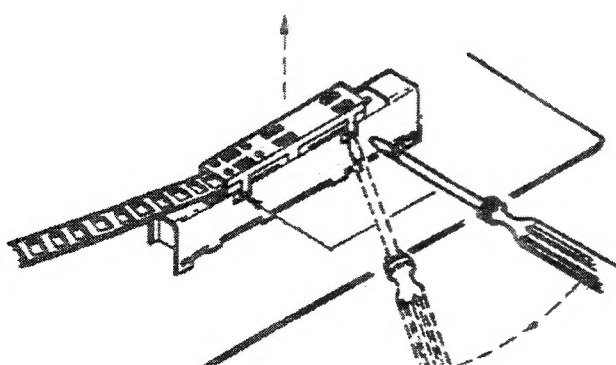

Fig 3. Removing the flexible wire of remote switch.
2. Insert the tip of the driver into the openings in the switch.(Fig 3)